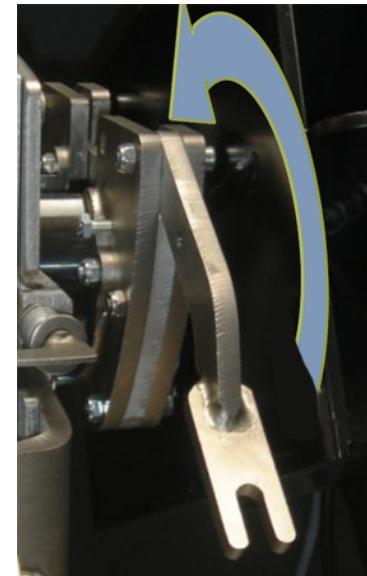

Figure 3-22 Close Latch
3. Close the latch. (Figure 3-22)